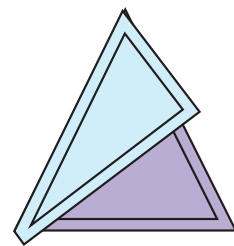

Fig. 23
22. Place one Fabric E- Template 1 triangle on top of one Fabric D-Template 2 triangle, right sides together, aligning the left sides (Fig. 23). Sew the two triangles together along the left side. Press the smaller triangle open.